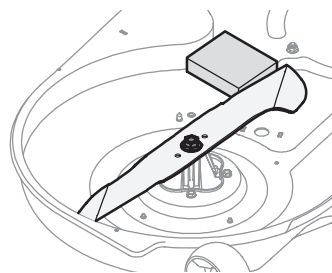

Figure 30
2. Place a block of wood between the center deck housing baffle and the cutting blade to act as a stabilizer (Figure 30).
3. Remove the hex flange nut that secures the blade to the spindle assembly (Figure 30).
3. Place a block of wood between the deck housing baffle and the cutting blade to act as a stabilizer (Figure 30 on page 27).